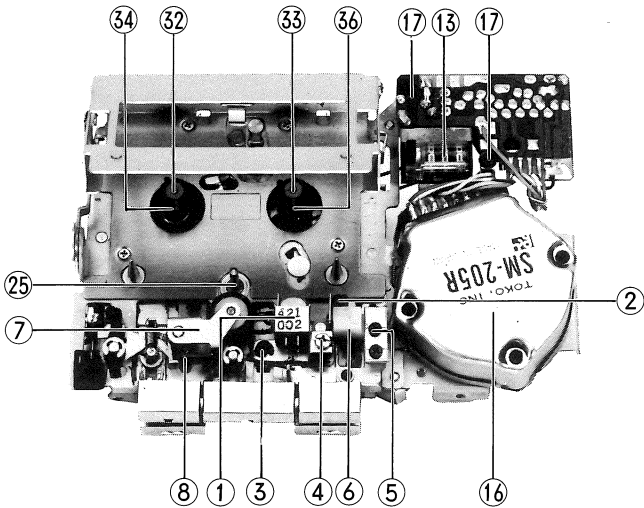
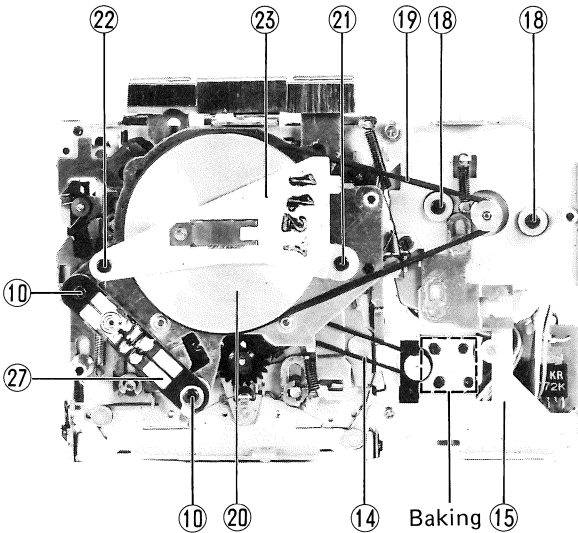

Fig. 4
Fig. 5
1. Removal of REC/PB head ① and erase head ② (Fig. 4)
2. Removal of pinch roller arm ass’y ⑦ (Fig. 4)
- Remove E-ring ⑧, then take out this ass’y together with the spring.
3. Removal of photo-coupler board (Fig. 5)
- Remove two screws ⑩. Be careful not to lose collar ⑪, wire clamp ⑫, etc.
4. Removal of tape counter ⑬ (Figs. 4 and 5)
- Remove counter belt ⑭, then cut off the four baked places of motor bracket ⑮ by a scrwdriver. (This can not be used again.)
5. Removal of motor ass’y ⑯ (Figs. 4 and 5)
- (1) Remove two screws ⑰ in the surface side, then remove the governor board.
- (2) Remove two screws ⑱ in the back side, then remove belt ⑲.
6. Removal of flywheel ass’y ⑳ (Figs. 4 and 5)